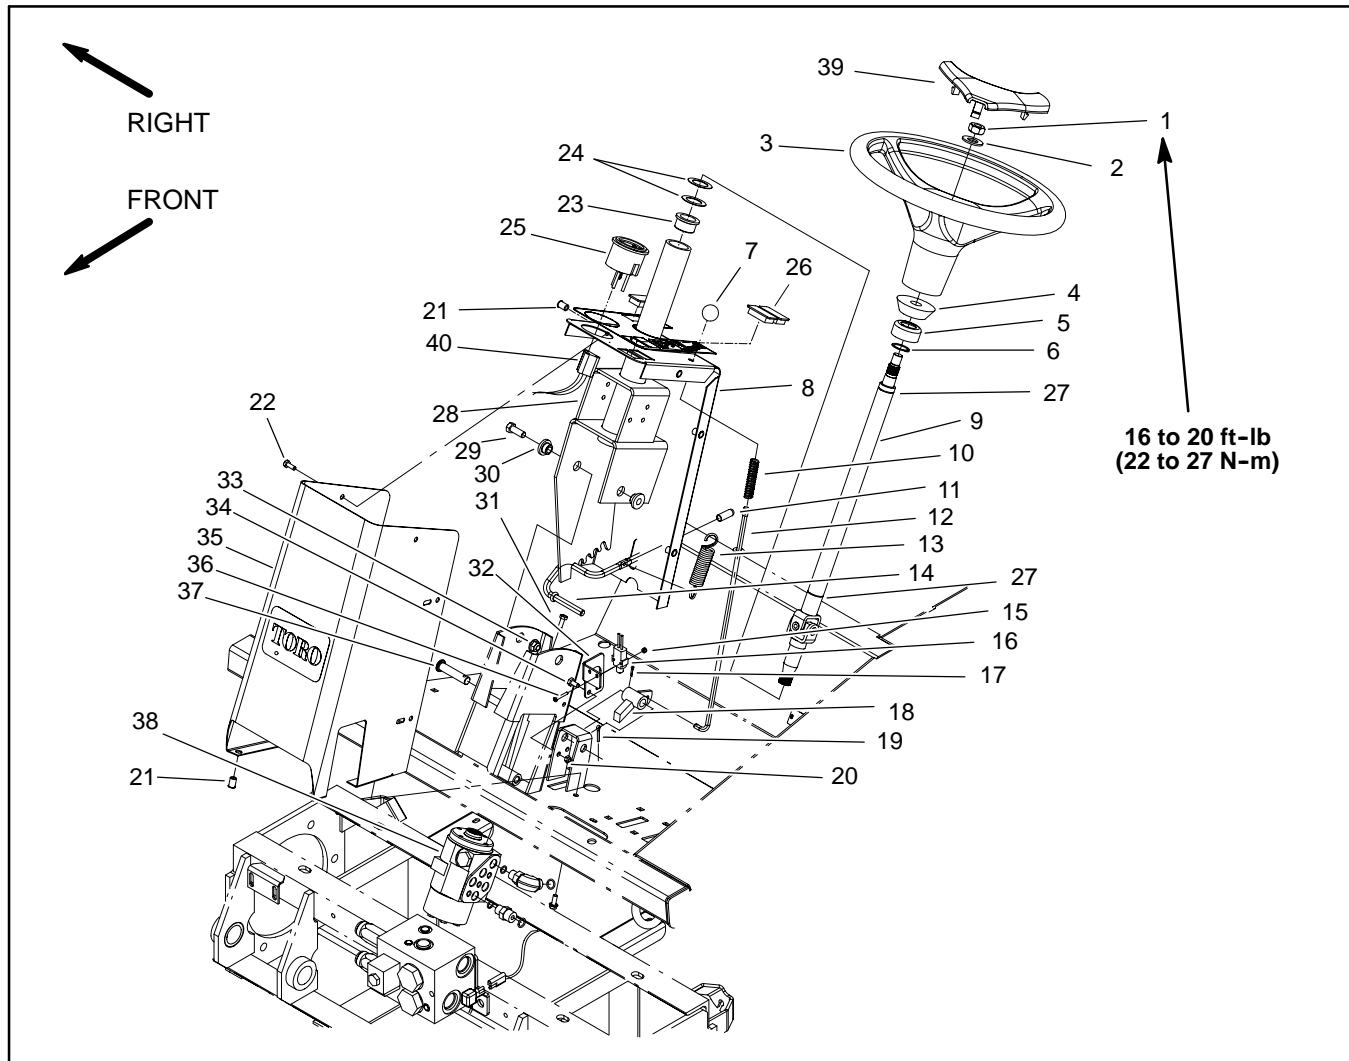

Figure 1
### Disassembly (Fig. 1)
2. Disassemble steering tower as needed using Figure 1 as a guide.
### Assembly (Fig. 1)
1. Assemble steering tower using Figure 1 as a guide.
- A. Thrust washer(s) (item 24) on steering column are used as needed to remove end play of steering shaft.